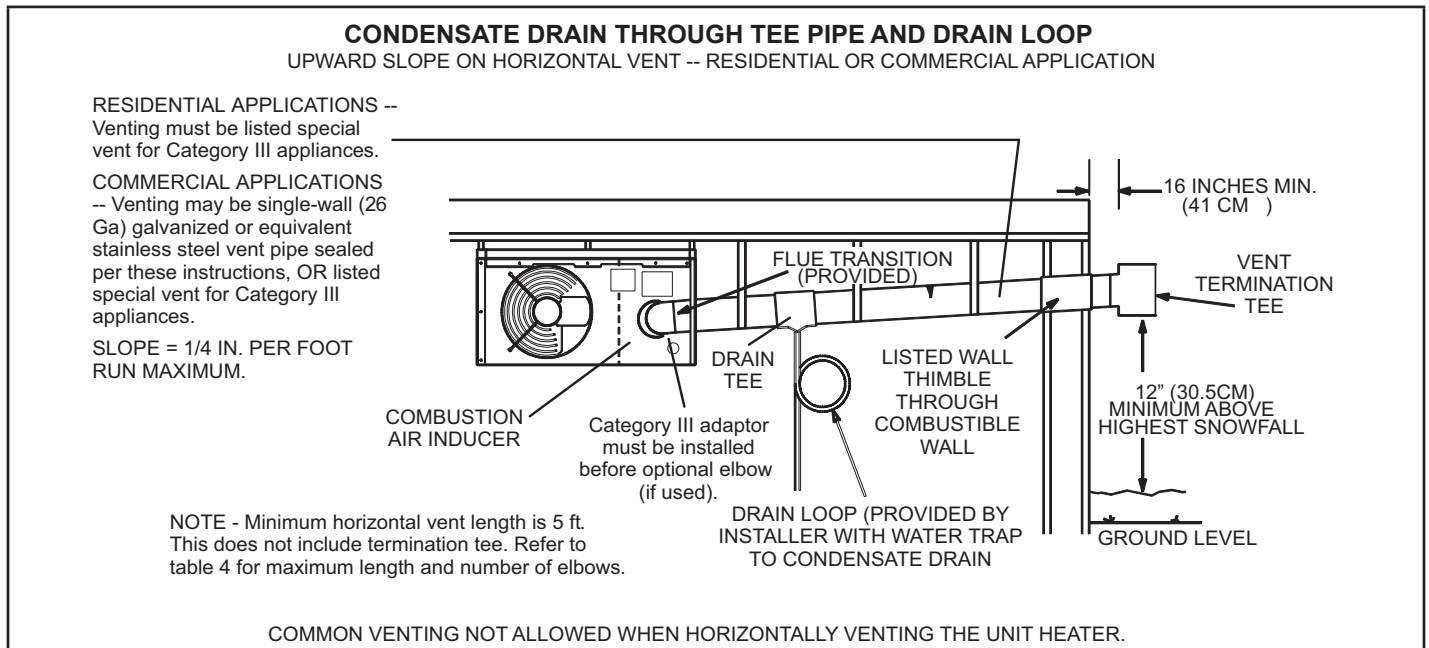

FIGURE 7
- 16 - For upward sloped vent, a condensate tee and drain must be installed within the first 5 feet (1.5m) from the unit heater to protect the appliance (see figure 7). If a flexible condensate drain line is used, the drain line must include a loop filled with water to prevent combustion products from entering the structure. If the unit is shut down for an extended period of time and will be exposed to sub-freezing temperatures, the condensate may freeze.